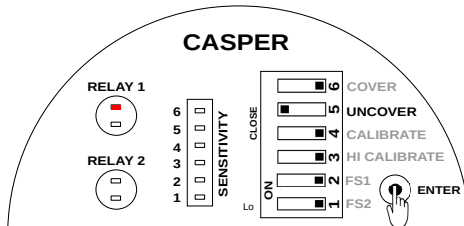

Figure 26: Setting Uncover Delay
- Press and hold ENTER key as shown in Figure 26. The STATUS LED for RELAY 1 starts blinking. Blink the LED according to value of uncover delay.